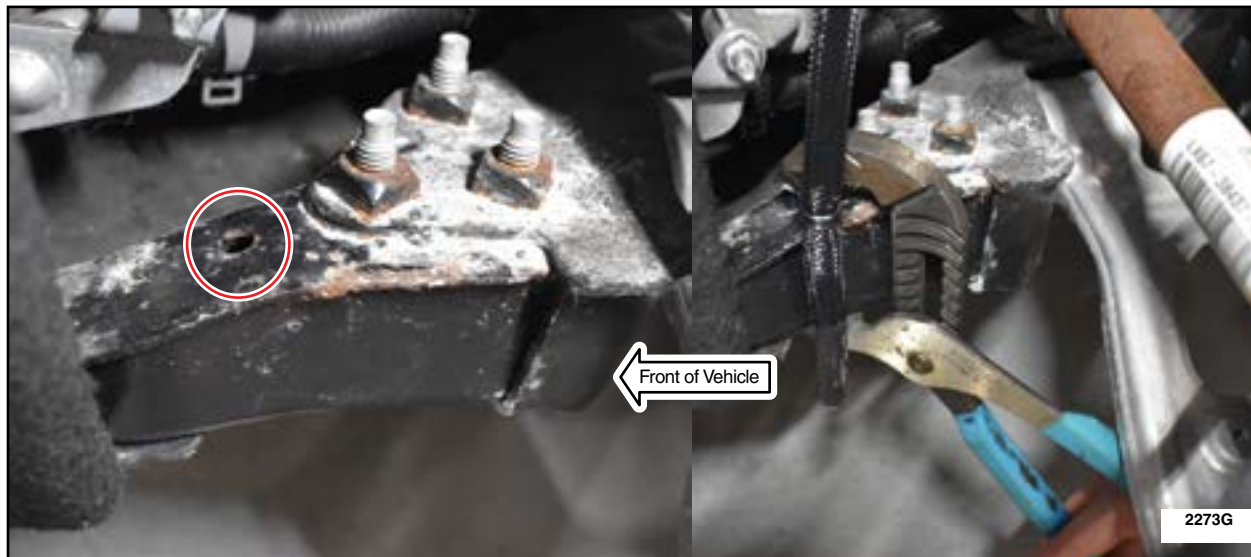

FIGURE 8
22. Attach hose to subframe. Position fir tree fastener and push in as far as possible. If needed you can use groove joint pliers to secure fir tree fastener fully into the hole in the subframe. See Figure 8.